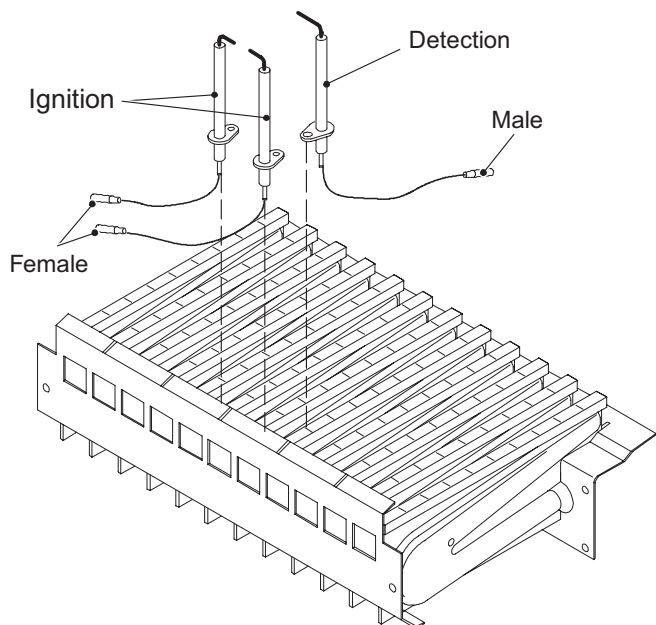

Figure 18.1
- 7 Assemble the electrodes carrying out the removal operation in reverse order. Refer to Figure 18.1 in order to recognise the electrodes and to correctly connect the wiring.